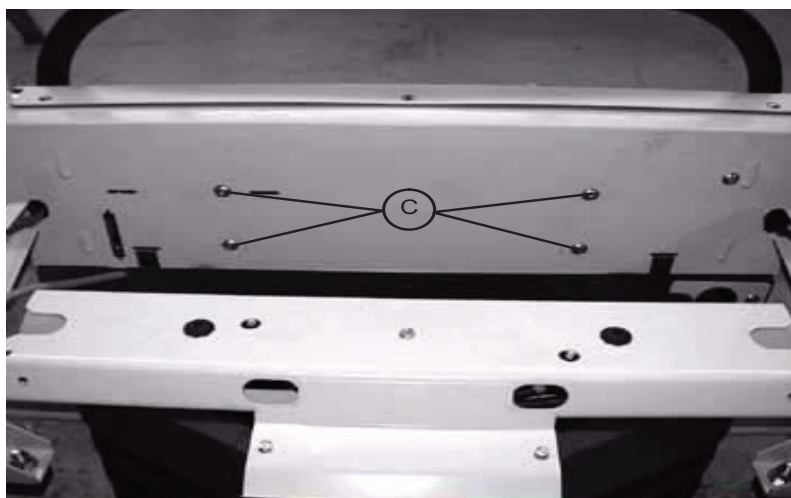

FIGURE 2
5. Using a T27 Torx, remove the four bolts (C) at the head end of the bed holding the control bar mounting bracket to the head end (see Figure 2).